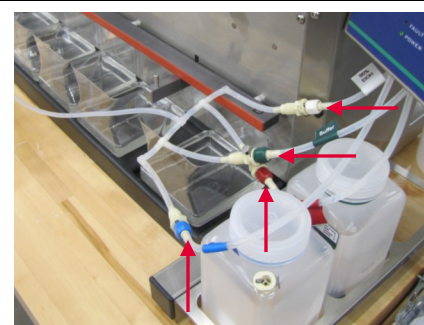

Figure 4
4. Disconnect the tubing connectors on the right side of the instrument from the EtOH78, EtOH95, Water and Buffer containers. Store or dispose of the fluids properly. Attach the four connectors on the Line Flush Tubing Assembly to the EtOH95%, EtOH78%, Buffer and Distilled Water connectors. See Figure 4.